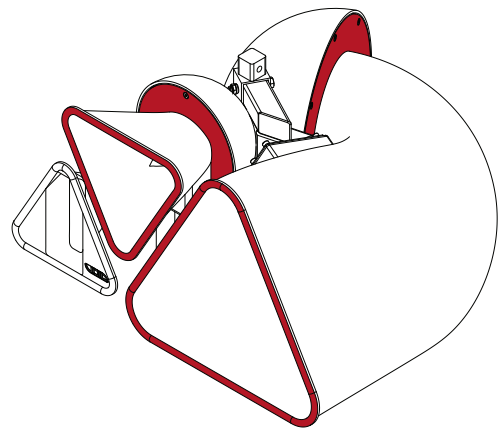

Figure 2.1: Safe handling positions diagram (as indicated in red)
- To remove from the transport case, each person should hold the Tri Motion on each side, with one hand on the edge of the horn flare, and the other supporting the weight of the drivers to the rear, as shown in figure 2.1